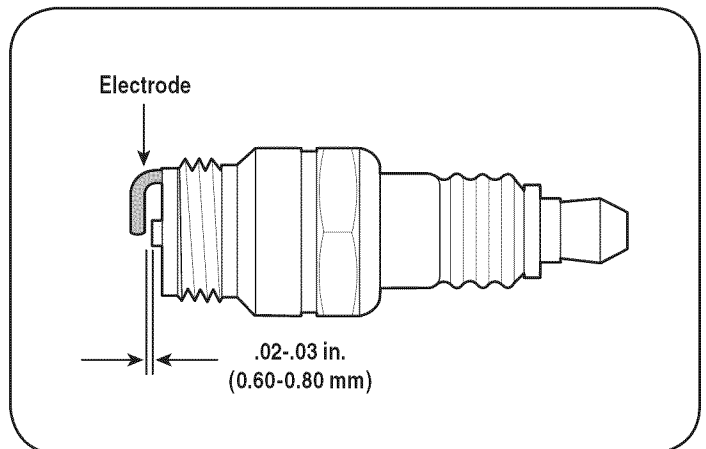

Figure 14
- Measure the plug gap with a feeler gauge. Correct as necessary by bending side electrode. See Figure 14. The gap should be set to .02-.03 inches (0.60-0.80 mm).